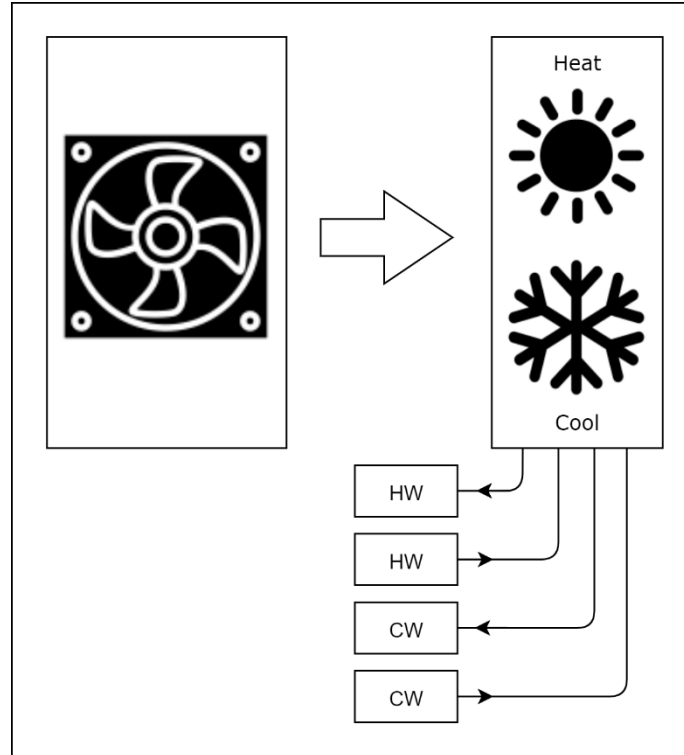

Figure 24 4 pipes fan coil system
The 4 pipe system consists of two separate cold water (CW) and hot water (HW) sources. Each source has its own set of pipes and valves for supply and return. The operation of 4 pipes system is demonstrated in Figure 24.